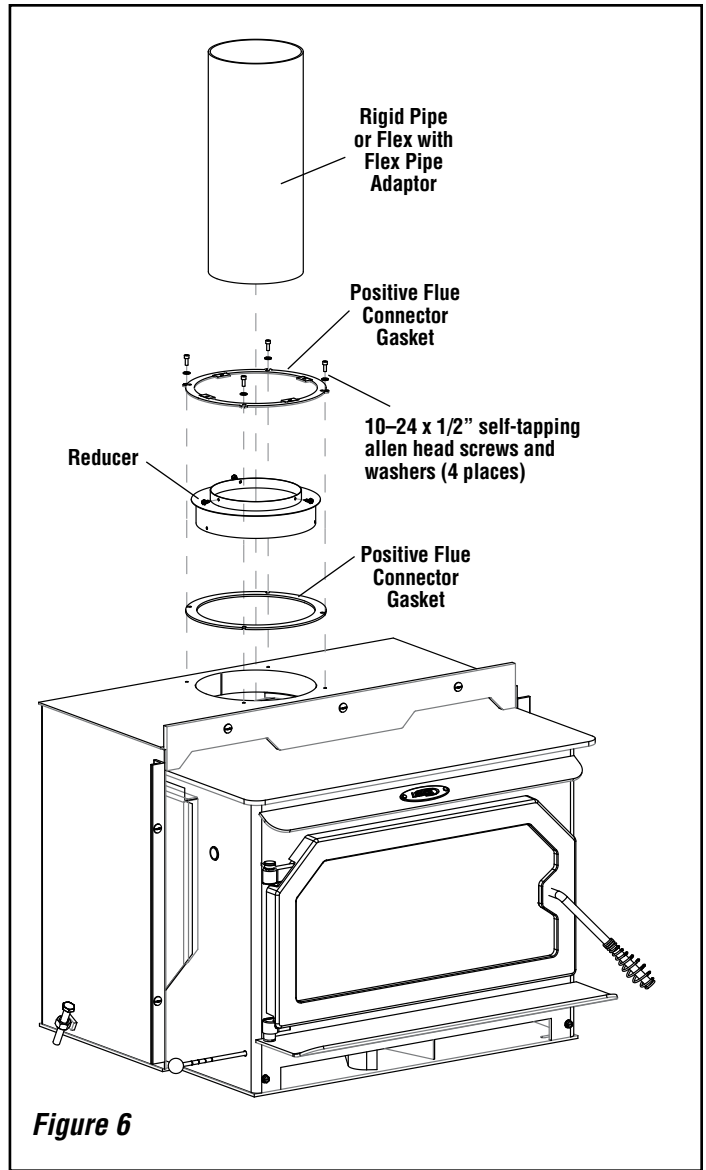

Figure 6
Step 3. When using rigid pipe, simply slide the rigid pipe down into the reducer. Using the four sheet metal screws supplied, fasten the pipe to the adaptor as shown in **Figure 6**.